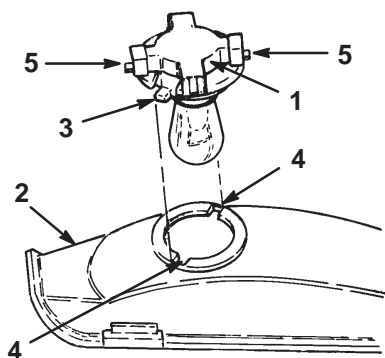

Figure 31
- Rotate the bulb holder 1/4 turn counterclockwise and remove it from the reflector (Fig. 31).
- Align the tabs on the bulb holder (Fig. 31) with the slots in the reflector, insert the bulb holder into the reflector, and rotate it 1/4 turn clockwise until it stops.